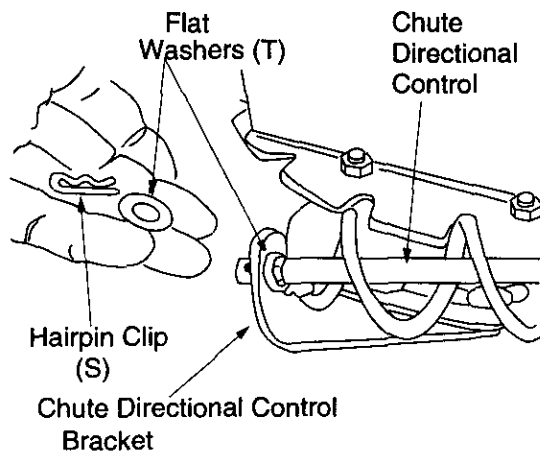

Figure 13
2. Place one flat washer (T) over the end of the chute directional control, then insert the end of the chute directional control into the hole in the plastic bushing in the chute bracket. See Figure 13. Place second flat washer (T) on chute directional control, and secure with hairpin clip (S).
5. Adjust the chute directional control support bracket (see Figure 13) so that the spiral on the chute directional control fully engages the teeth on the chute assembly. Tighten the hex nuts on the lower chute directional control bracket securely. Tighten the hex nuts on the eyebolt.